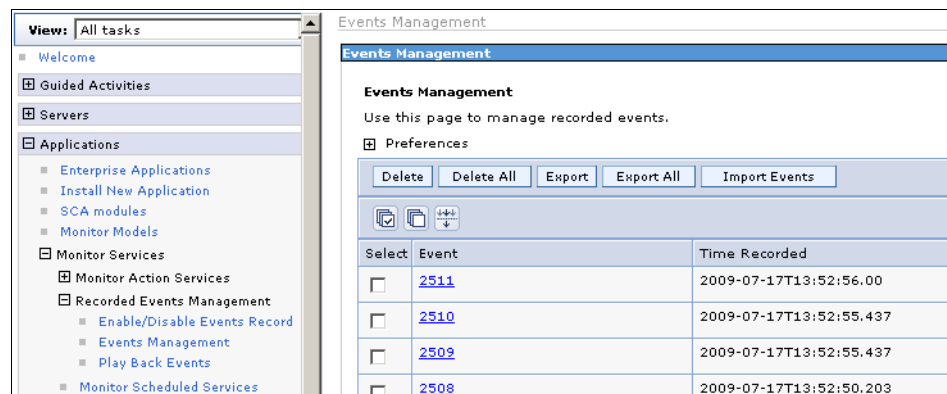

Figure 8-22 Event Management console
- From the WebSphere Business Monitor Administrative Console, expand **Applications Monitor Services Recorded Events Management Events Management**, as shown in Figure 8-22.